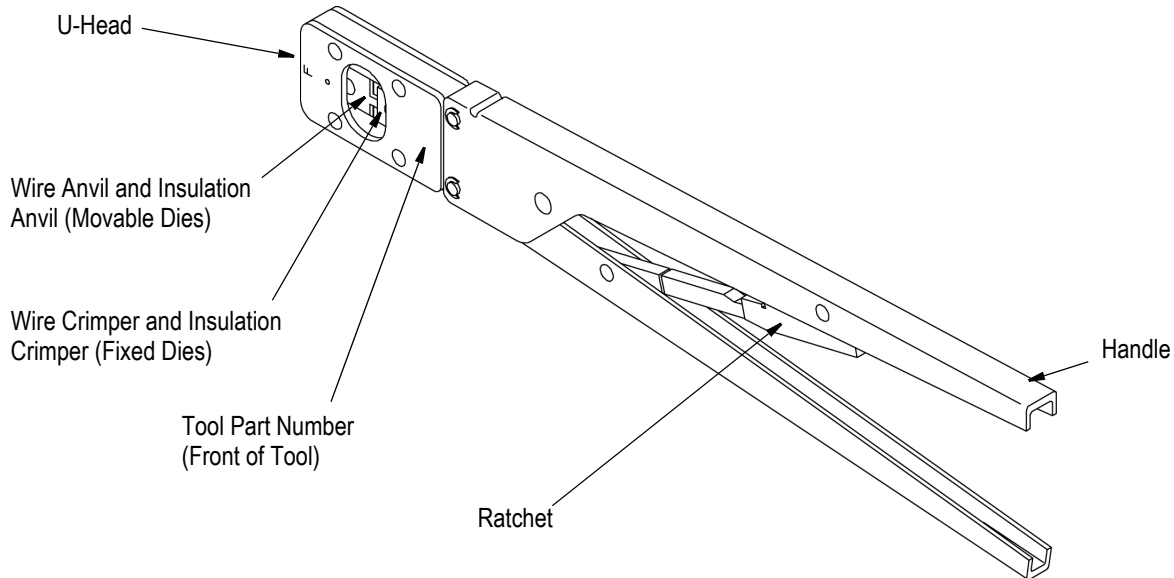

Figure 1
**2. DESCRIPTION** (See Figure 1)